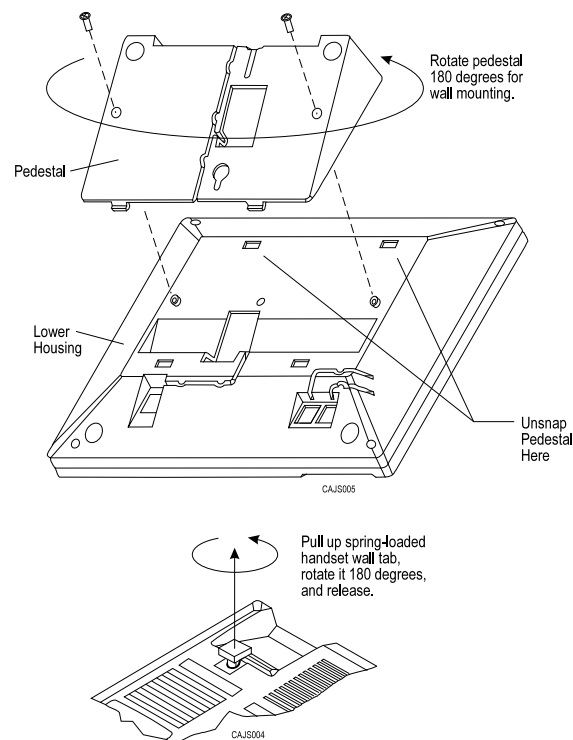

Figure 2-8: Reversing The Pedestal And Handset Hook On *Impact* (models 80nnn and 81nnn) and *Impression* (models 20nnn and 21nnn) Telephones
4. This telephone has a reversible handset retaining hook. When wall mounting, pull up this hook and rotate it 180 degrees (see **Figure 2-8**).